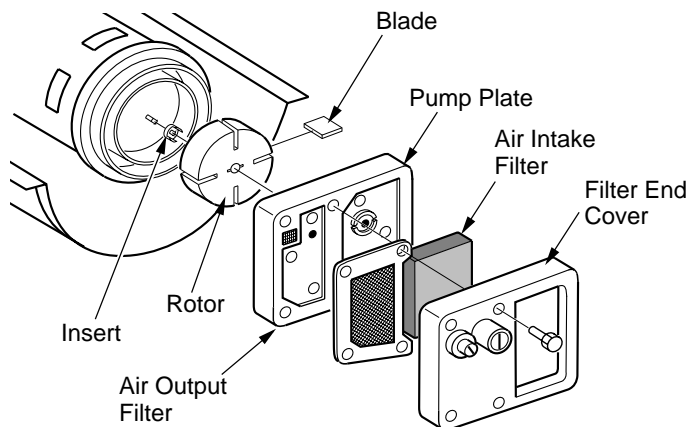

Figure 23 - Rotor Location
3. Remove filter end cover screws using 5/16" nut driver (see Figure 23).
7. Remove rotor, insert, and blades (see Figure 23).